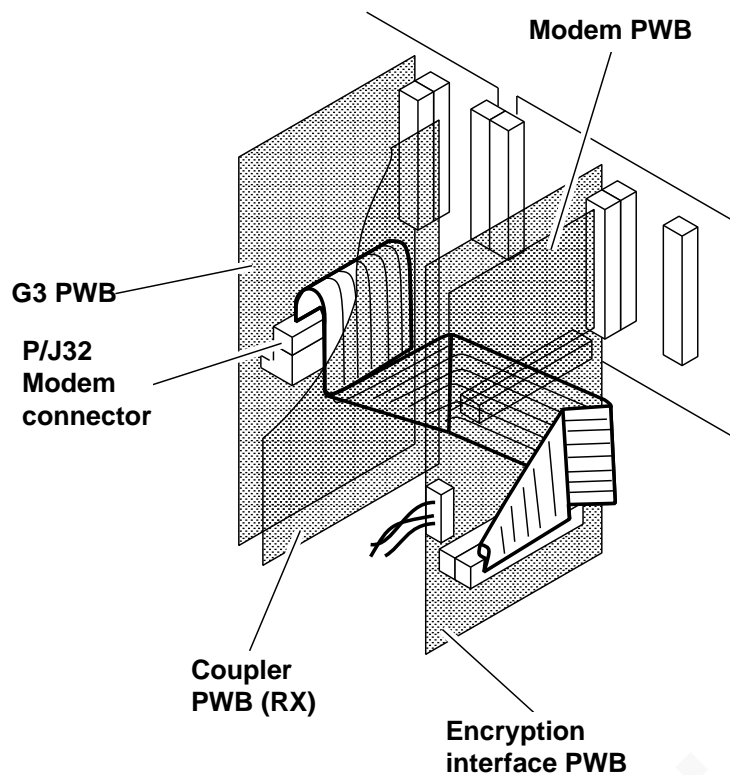

Figure 2. Encryption interface cable routing
5. Move the modem PWB from the G3 PWB to the encryption interface PWB and connect the ribbon harness (Figure 2).